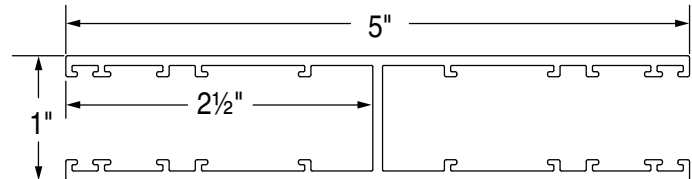

Figure 9
- ① "H" Channels come in 16' lengths and must be cut to the height required. Measure and cut to fit installation requirements (see Fig. 9).
- ② Drill holes in "H" Channel for mounting to wall or jamb.